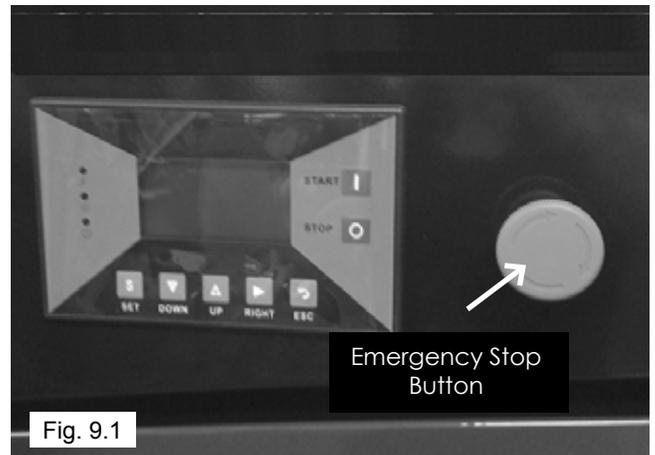

Fig. 9.1
1. To immediately stop the Compressor press the Emergency Stop Button to cut off the power supply of the controller and contactor power. (See Fig. 9.1)